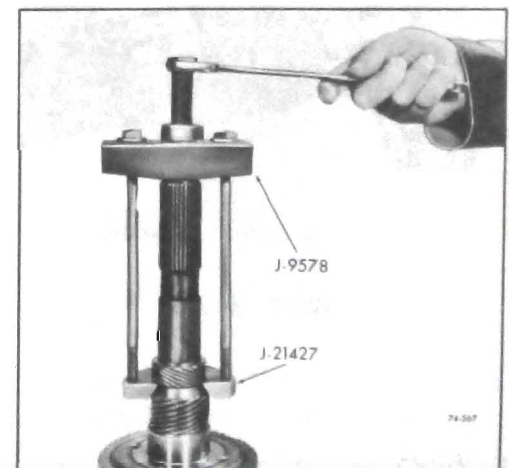

Figure 76-567
a. *Steel Speedometer Gear:* Install steel Speedometer Gear Removing Tool J-21427 and J-9578, on output shaft and remove speedometer drive gear. See Figure 76-567.